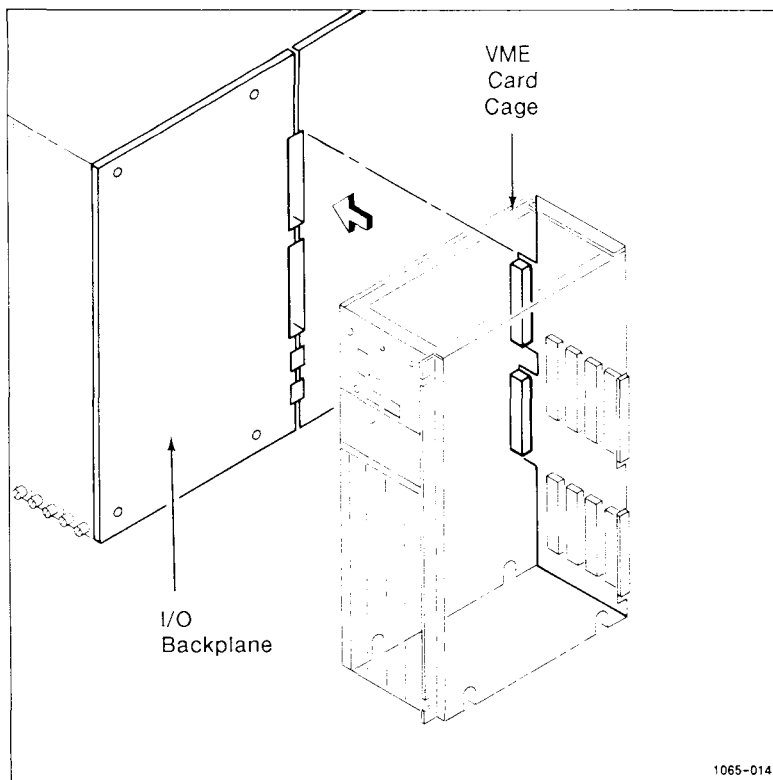

Figure 7-4. Installing the VME Card Cage
2. Work the VME backplane notch into the I/O backplane, setting the VME card cage assembly into place (see Figure 7-4).